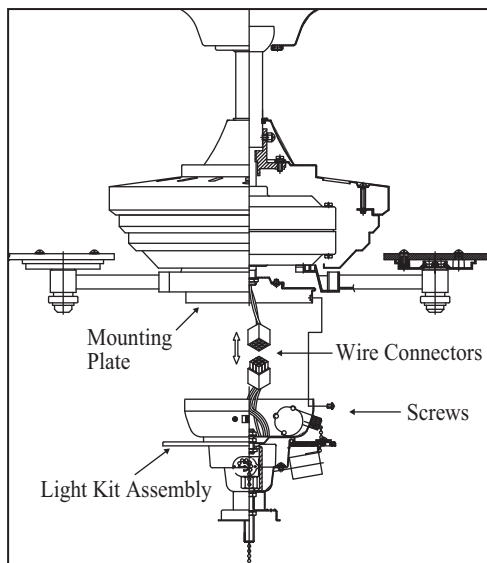

Figure 16
3. Secure the light kit assembly to the mounting plate with the 4 screws previously removed. (Fig. 16)